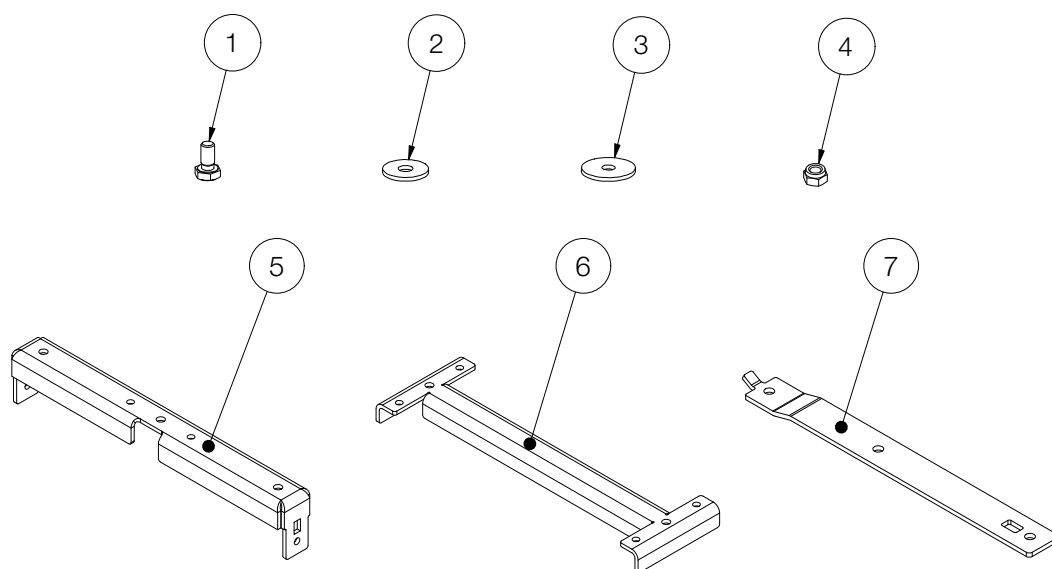
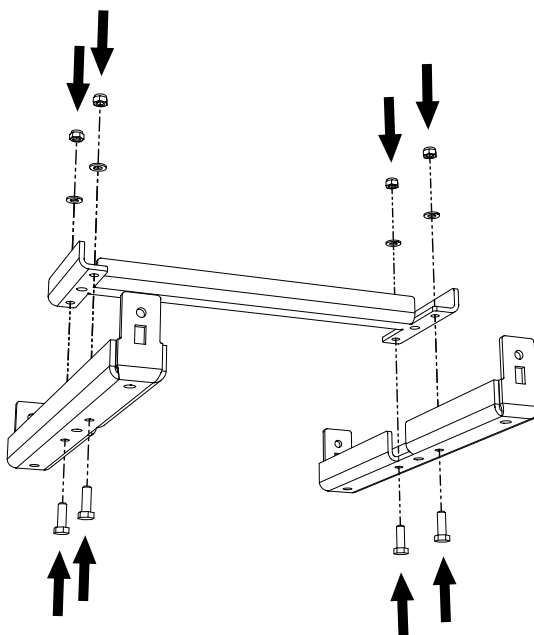

Figure 2.3 - Overview
Figure 3.4.1 - Mounting of the HBB24i or VBB24i
1. Place the two crossbeams (see figure 2.3, item 5) upside down on a protected work surface.
2. Then place the longitudinal beam (see figure 2.3, item 6) onto the two crossbeams so that it lies in the recesses.
3. Insert four hexagon screws (see Figure 2.3, item 1) through the holes from below (see figure 3.4.1).
4. Place four metal washers (see figure 2.3, item 2) onto the hexagon screws and then tighten them with four hexagon nuts (see figure 2.3, item 4).